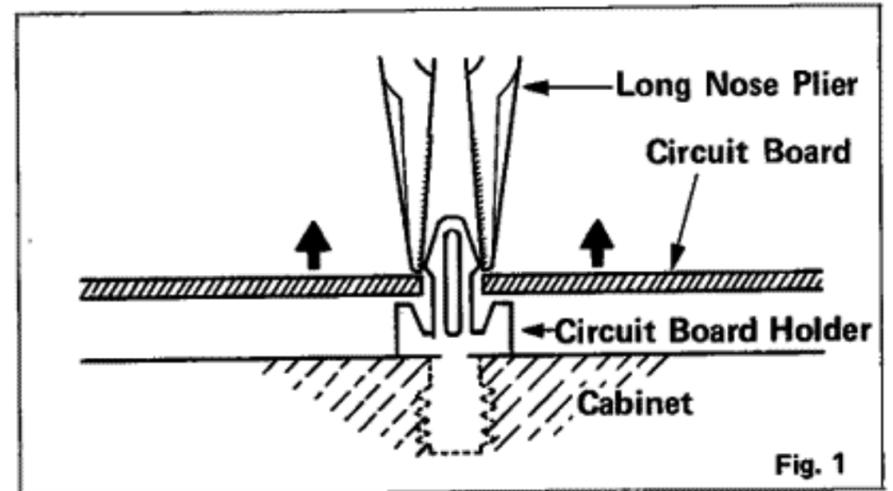

Fig. 1
- b. Pinch the hooked end of Circuit Board Holders on each corner of Power Supply Circuit Board by means of Long Nose Plier and gently lift the corner to remove the Power Supply Circuit Board, as shown in Figure 1.